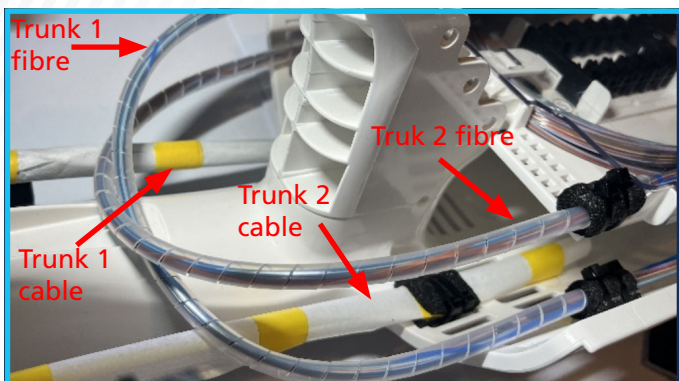

Figure 9.8
8. Repeat the same process for the second 432f cable, route the unit bundle to the opposite side of the splice tray [figure 9.8].